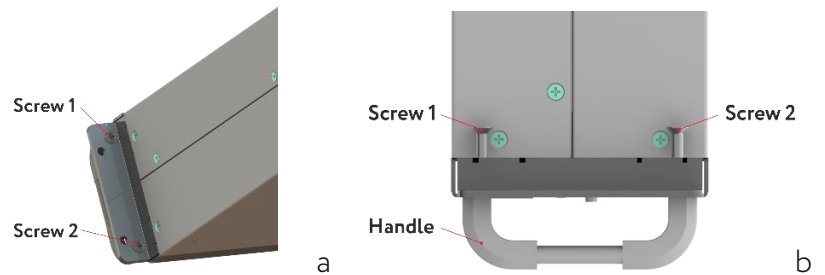

Figure 5.11. Location of fasteners and handles
2. Remove screw 1 and screw 2 using a screwdriver. Remove the handle (if exist) (fig. 5.11). Remove the screws on the other side in the same way and remove the other handle (if exist).